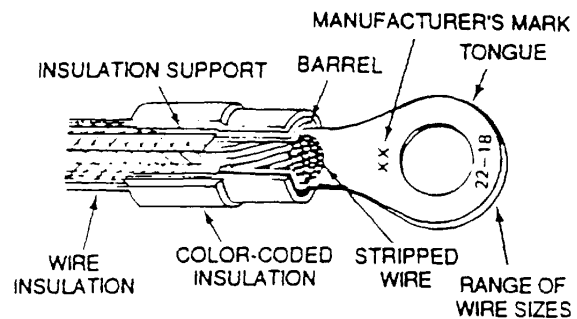

Figure 19. Typical Terminal Lug
- c. Class 1 - Terminals and conductor splices which conform to all of the requirements of SAE AS7928 (Table 6) when installed with the crimping tool or crimping dies shown on the applicable MS standard or specification sheet. Copper terminal lugs are available in two styles for use under different space conditions and requirements: Straight (Figure 19) and Flag.